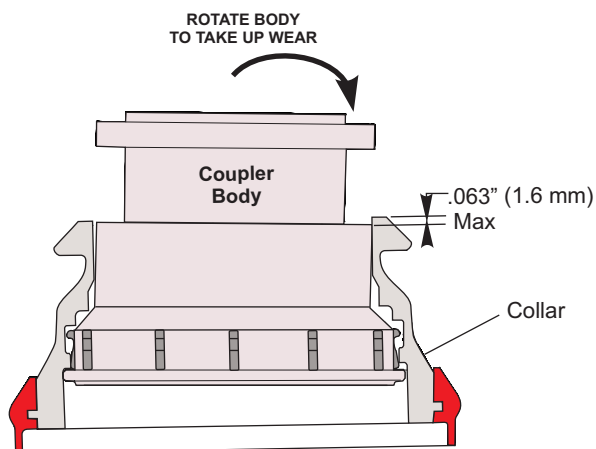

FIGURE 2 - INSPECTION PROCEDURE
B. See Figure 2. Using hands only (no tools), push down on one side of the collar to hold it stationary relative to the coupler body, while simultaneously lifting firmly upward from beneath the collar on the coupler's opposite side. This action takes up the clearance between the housing and collar. If these components are worn, this will result in the top of the collar lifting away from the coupler housing, which normally is flush with the collar. Take note of the offset of the collar relative to the housing (directly opposite the operating handle). Refer to Figure 2, and if the offset exceeds .063 inch (1.6 mm), the coupler has too much wear for continued use. On a new coupler these surfaces would be flush or the housing would be slightly proud of the collar by approximately .025 inch (.6 mm) due to manufacturing tolerances.